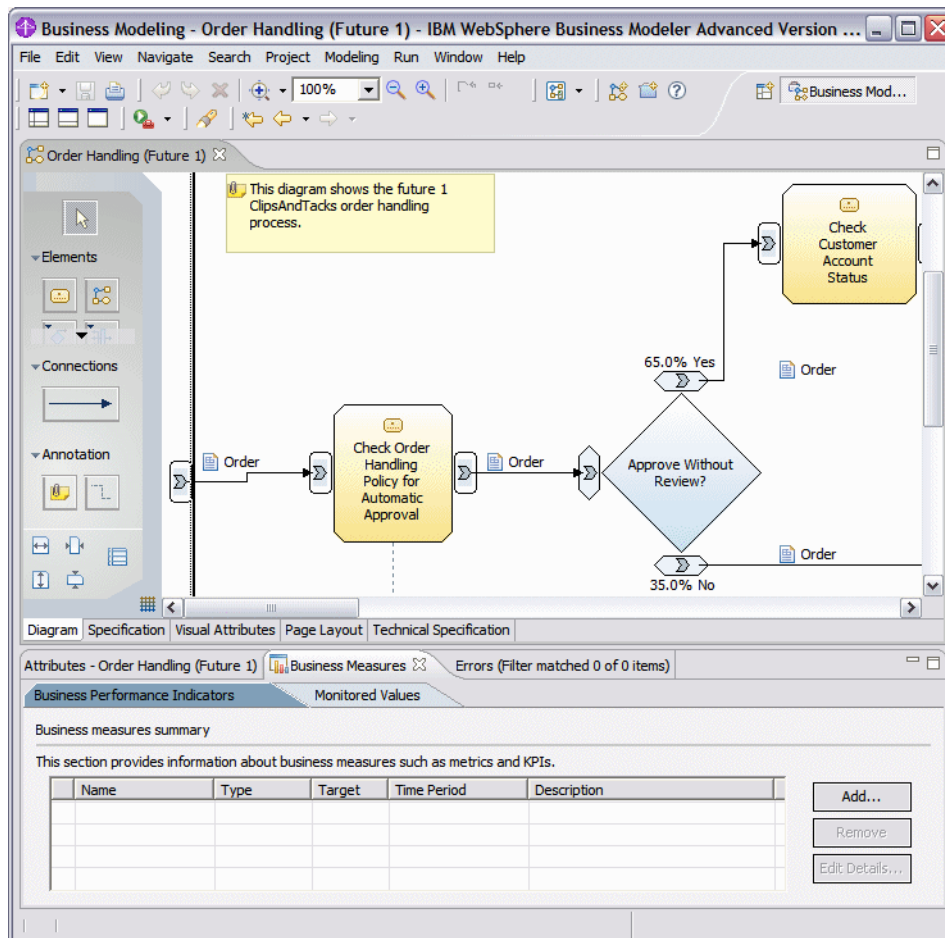

Figure 9-7 Business measures: Diagram and Business Measures view
- ▶ The Business Measures view is linked to the process diagram that is open (Figure 9-7).
- ▶ Click *Add* in the Business Measures view (Figure 9-7 on page 196). Specify the following details (Figure 9-9):